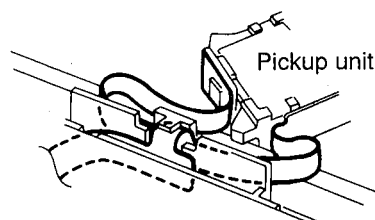

Fig. 4-28 (Back of CD mechanism)
3. After turning the CD mechanism over in Step 95), and setting of the 11 pin flexible P.C. board in Step 6 as shown in Figs. 4-27 and 4-28. The states of the P.C. board which has been set are as shown in Fig. 4-28).